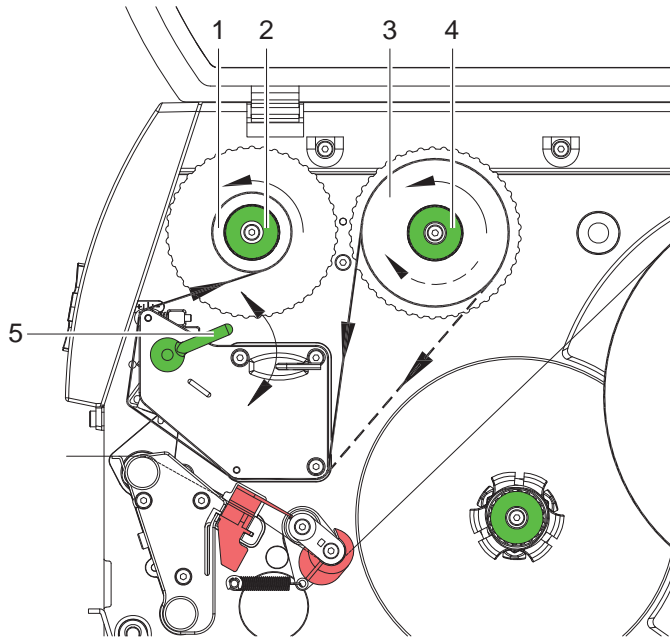

Fig. 17 Feed path of the transfer ribbon
2. Turn lever (5) counterclockwise to lift the printhead.
3. Slide transfer ribbon roll (3) onto the ribbon supply hub (4) until it stops and so that the color coating of the ribbon faces downward when being unwound. No rotation direction is specified for the ribbon supply hub (4).
4. Hold transfer ribbon roll (3) firmly and turn knob on ribbon supply hub (4) counterclockwise until the transfer ribbon roll is secured.
5. Slide suitable transfer ribbon core (1) onto the transfer ribbon take-up hub (2) and secure it in the same way.
6. Guide transfer ribbon through the print unit as shown in Fig. 17.
7. Secure starting end of transfer ribbon to the transfer ribbon core (1) with adhesive tape. Ensure counterclockwise rotation direction of the transfer ribbon take-up hub here.
8. Turn transfer ribbon take-up hub (2) counterclockwise to smooth out the feed path of the transfer ribbon.
9. Turn lever (5) clockwise to lock the printhead.